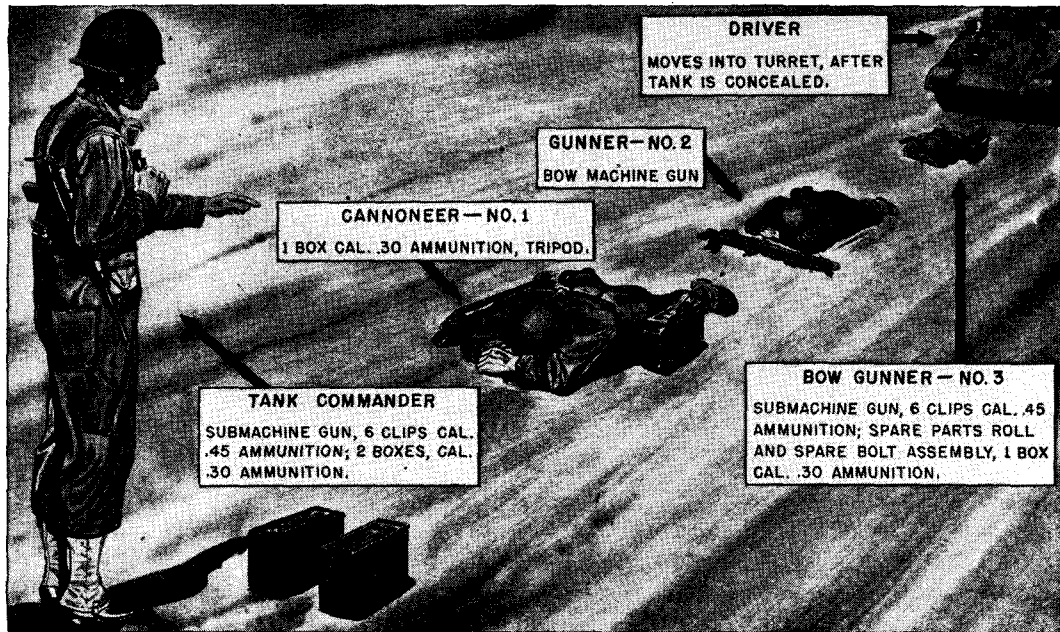

Figure 6. Dismounted action, crew formed for drill (tank commander instructing).
b. The dismounted crew moves to the position indicated by the tank commander or in drill, 5 yards in front of the tank (see figs. 6 and 7). The crew members take the posts and perform the duties of the crew of a ground-mounted machine gun as prescribed for gun drill in FM 23-55.
46 b. The dismounted crew moves to the position indicated by the tank commander or, in drill, 5 yards in front of the tank (see figs. 6 and 7). The crew members take the posts and perform the duties of the crew of a ground-mounted machine gun as prescribed for gun drill in FM 23-55.